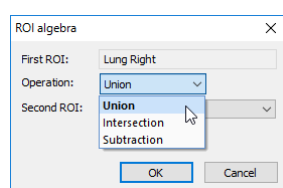

Figure 252 – ROI algebra dialog, defining the algebraic operation
2. The **ROI algebra** dialog is then displayed where select the algebraic operation in the **Operation** combo box (see Figure 252).